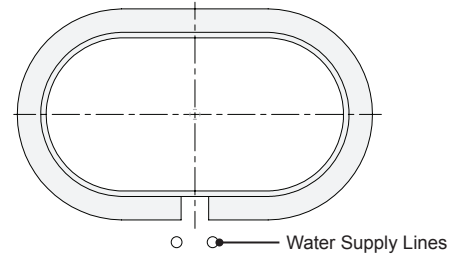

Figure 26. Pedestal Base Placement
- Center the opening on the pedestal base with the drain opening (Figure 26).